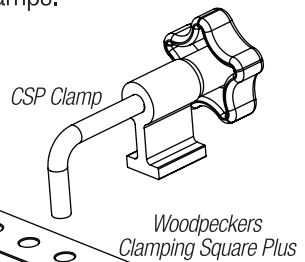

FIGURE 1
1. Place your Clamping Square Plus on either the inside or outside of your workpiece. *Figure 1.*